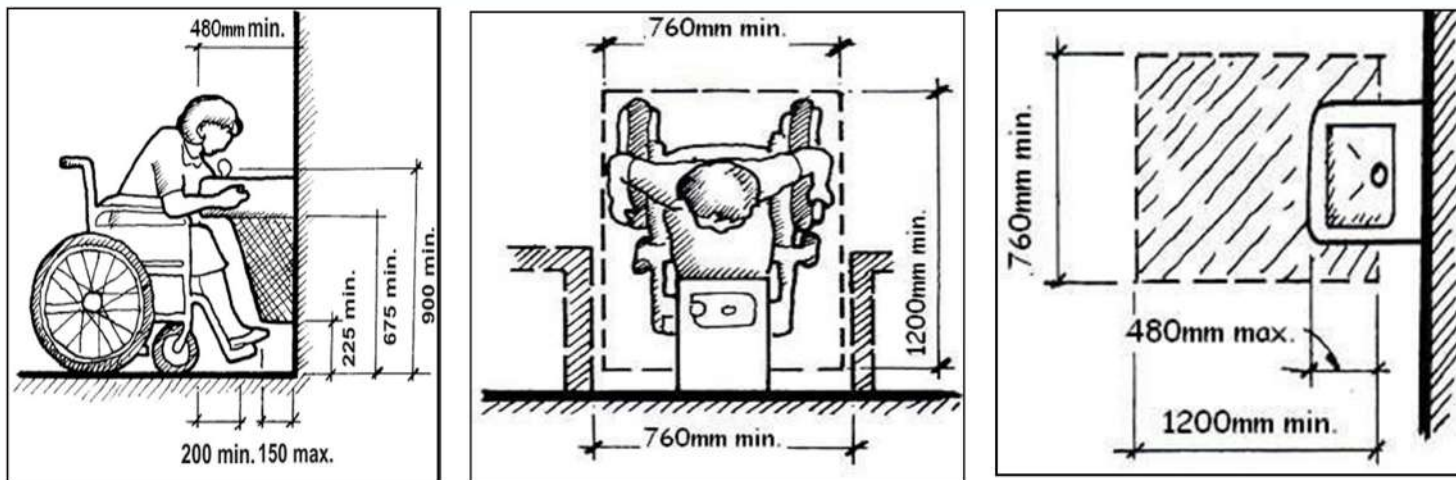

Figure 5.38 Standards for accessible drinking water units
- Washbasin be of dimensions 520mm and 410mm, so mounted that the top edge is between 700mm-800mm from the floor; have a knee space of at least 760mm wide by 200mm deep by 650mm-680mm high (**Figure 5.38**)